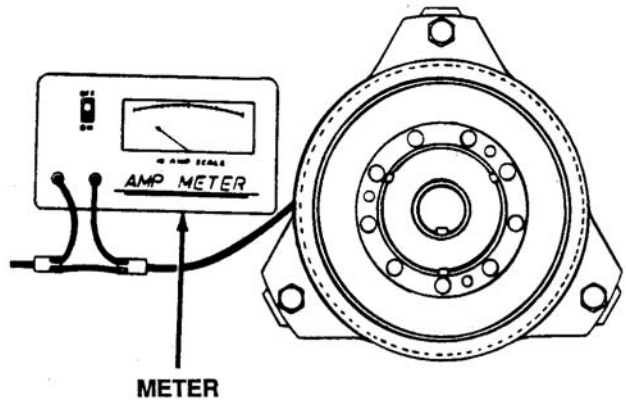

Figure 3-74. Measuring Clutch Current Draw
4. Connect one meter lead wire to one wire in clutch connector and the other meter lead wire to the corresponding wire in the mating connector. See Figure 3-74.